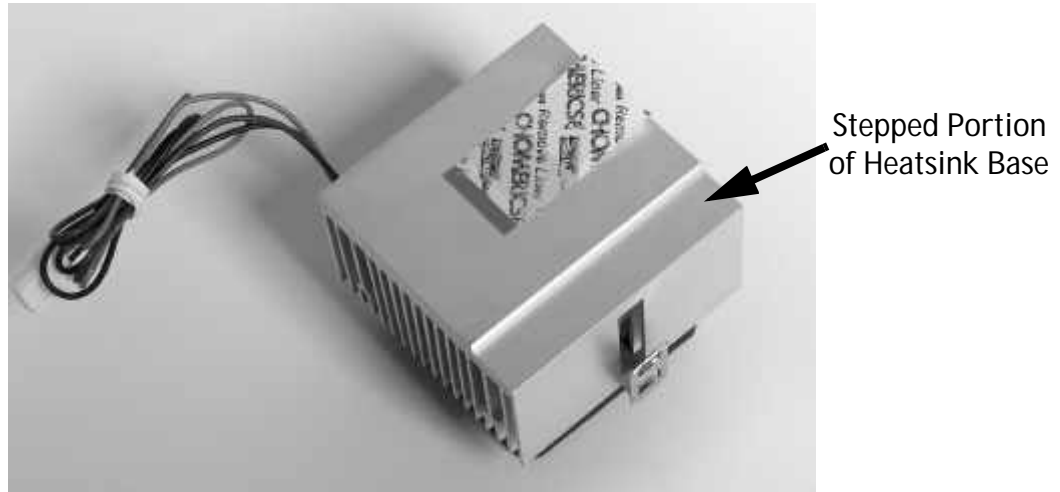

Figure 7. Underside of Heatsink with Stepped Bottom Surface
7. Figure 7 shows the bottom of a heatsink with a step. The stepped portion fits over the top of the socket, where the legend "Socket 462" is molded into the plastic. When the heatsink is correctly installed, the heatsink base will not touch any portion of the socket.